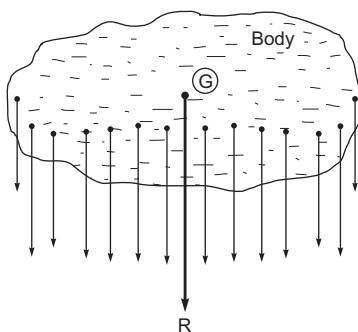

Fig. 4.1: Center of gravity (CG)
4.1.1 Center of Gravity (CG)
It has been established, since long, that every particle of a body is attract by the earth towards its centre. The force of attraction, which is proportional to the mass of the particles of the body, acts vertically downwards and known a weight of the body. As the distance between the different particles of a body & the centre of the earth is taken to be same (because of very small size of the body as compared to the earth), these forces may be taken to act along parallel lines as shown in fig. 4.1. The resultant R of all such parallel forces acts on one point G . This point through which the whole weight of the body acts, is known as center of gravity (CG), irrespective of the position of the body. It may be note that everybody has only one & one CG. If you balance the body on this point of CG, it will balance.